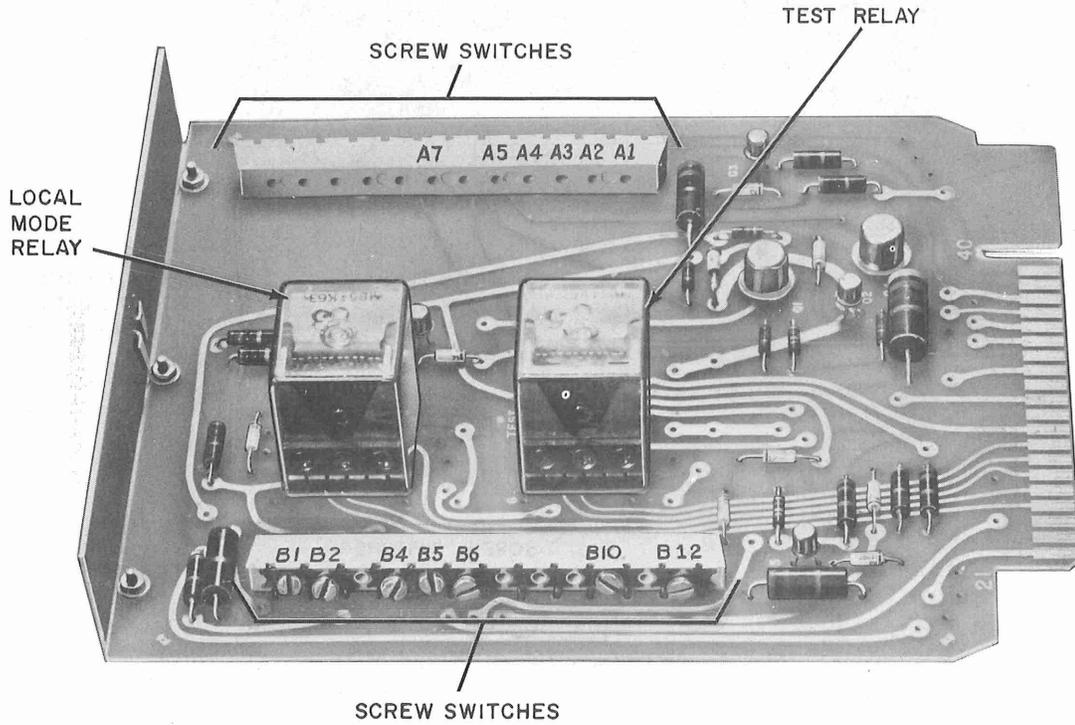
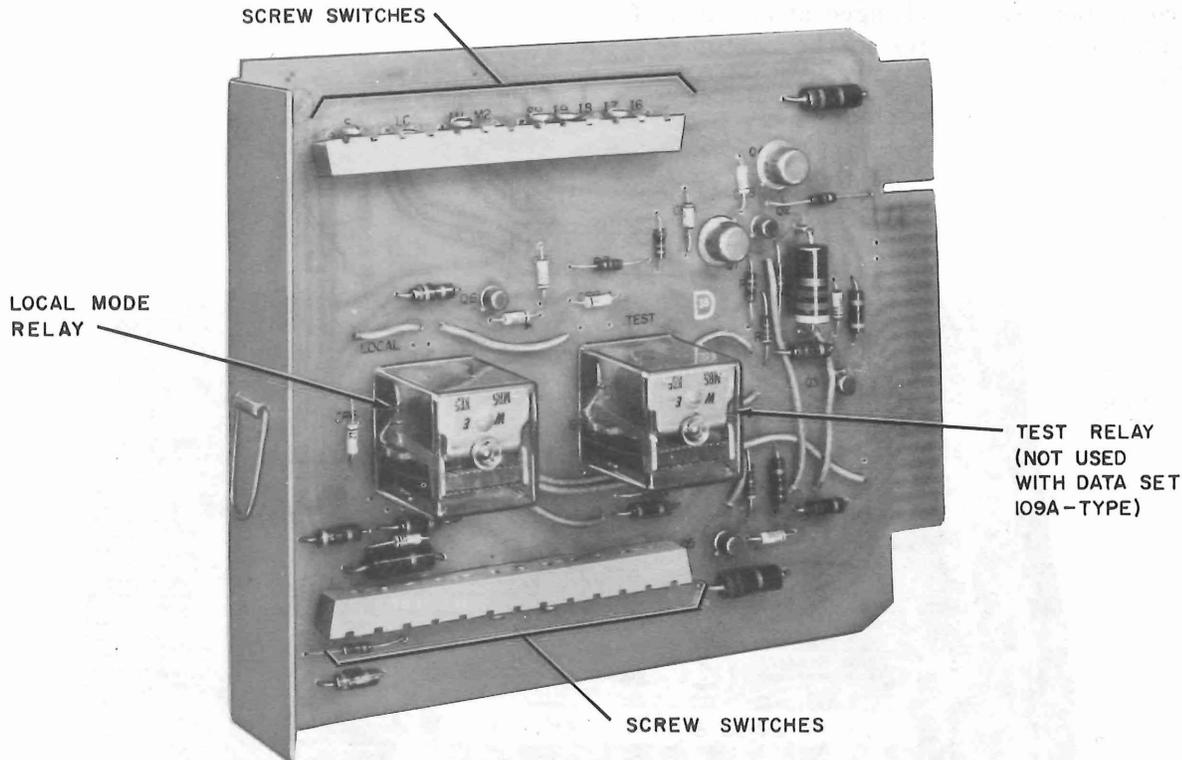

Fig. 3—AR17 Circuit Pack
Fig. 4—AR16 Circuit Pack (Rated MD)
2.01 The options of the data station are made by opening or closing the screw switches on AR17 CP (Fig. 3) or AR16 CP (Fig. 4) DAS 830C (if used) options are to be made by installation or removal of links on the DAS 830C (see Section 598-083-103). The option connections are normally made prior to the installation of the data station as specified on the service order or circuit layout record card (CLRC) for the installation. The
Note: Some earlier models of the data station were equipped with AR16 CP (Fig. 4) which is rated Manufacture Discontinued (MD). The options are made on AR16 CP in the same manner as on AR17 CP.